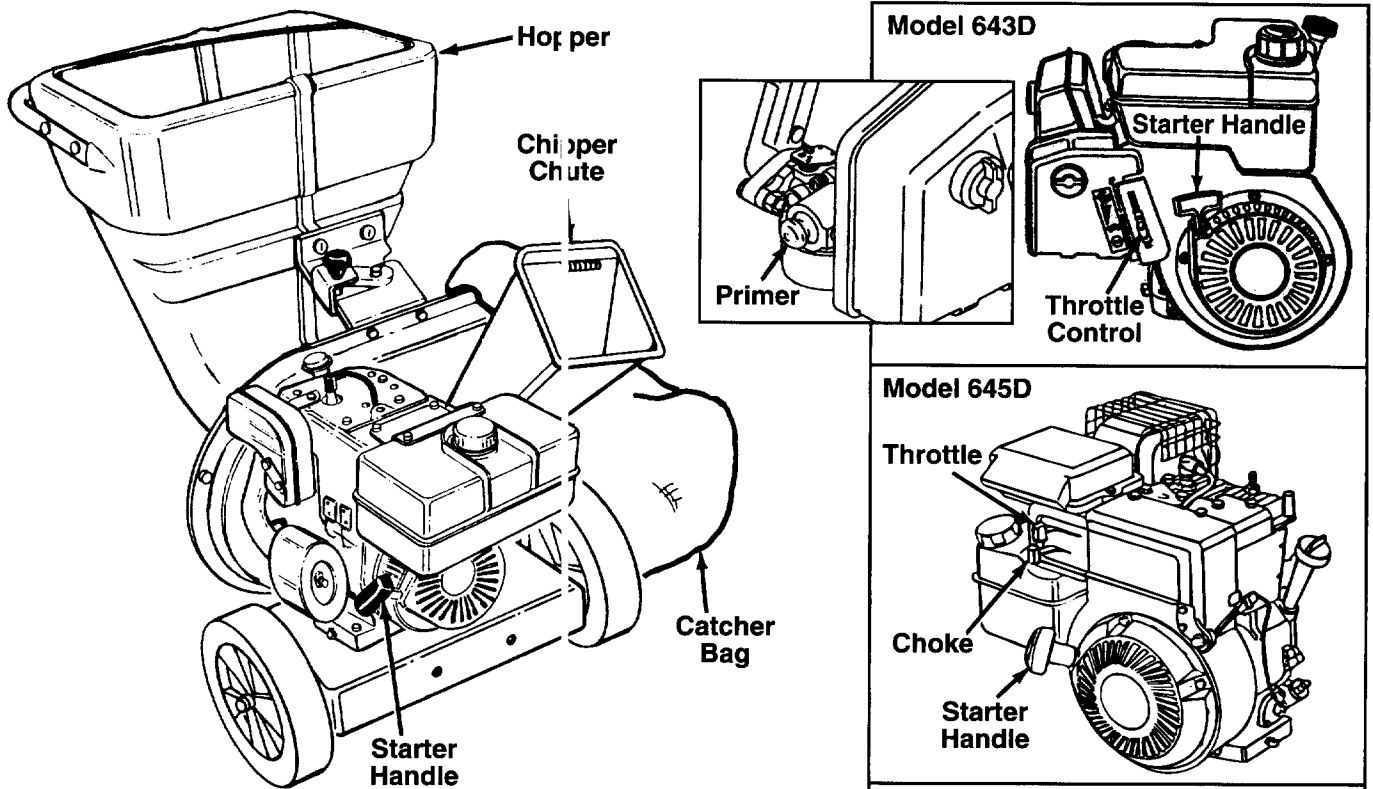

FIGURE 5.—Model 648D Shown
### OPERATING CONTROLS (See figure 5)
1. Place the throttle control lever in FAST position. See figure 5.
3. Grasp starter handle (see figure 5) and pull rope out slowly until engine reaches start of compression cycle (rope will pull slightly harder at this point). Let the rope rewind slowly.